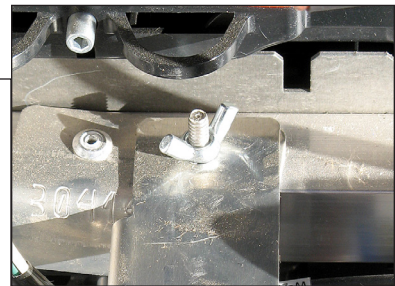

Figure 4: Wing Nut Securing Spare Parts Rack
1. Remove the two wing nuts that secure the spare parts rack to the display cabinet. Refer to **Figure 4**.